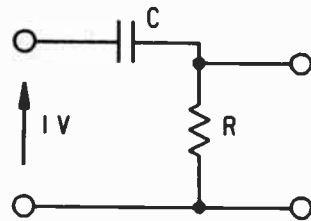

Fig. 10.12. A coupling problem.
4. The circuit of Fig. 10.12 shows the coupling between two transistor stages of an oscillator. If 1V is present across the input of this circuit at that frequency when $X_C = R$, what will be the voltage across R?